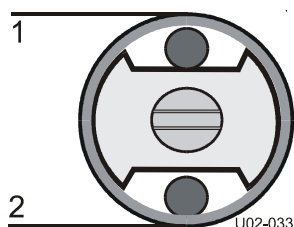

Figure 16: Auto-grip shaft position.
2. Place the scrap core on the shaft, holding the shaft as in Figure 16.
3. Insert the shaft into the core cylinder of the film roll, holding the auto-grip shaft as in Figure 16.
4. Place the shaft with the film roll in the correct way back into its suspensions (see Figure 16).